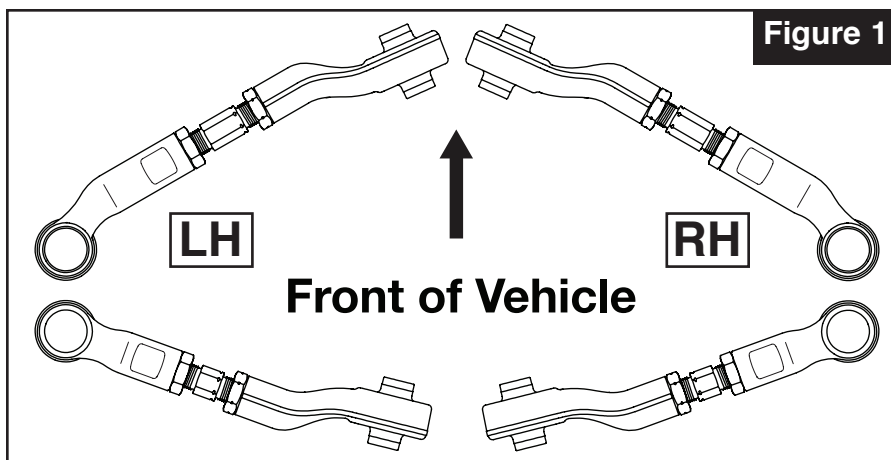

Figure 1
6. Set up and adjust new control arms as shown in **Figure 1** to approximately same length as OE arms. Make sure equal thread is visible on either side of hex adjuster.